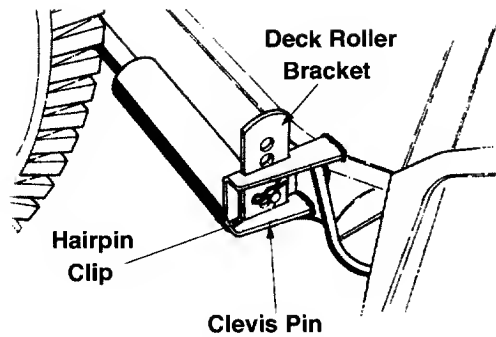

Figure 12
15. **Units with 50" Decks:** Remove the clevis pins and hairpin clips from the roller assembly. Slide the roller assembly between the rear wheels and the deck. Insert the deck roller brackets up through the brackets provided on the rear of the deck. It may be necessary to rotate the deck roller brackets 360° to clear the roll pin stop. Attach with clevis pins and hairpin clips just removed, using the lowest hole location on each side of the deck. See Figure 12.